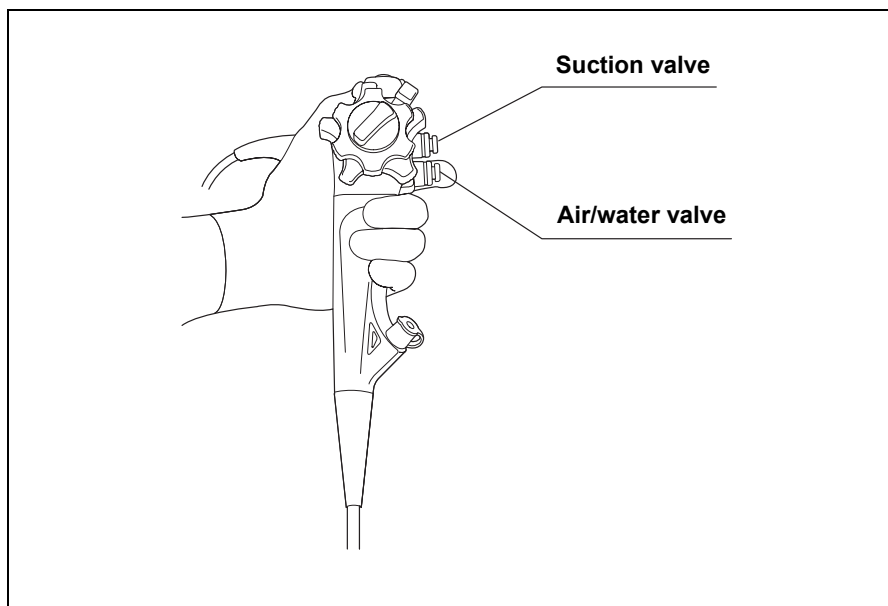

Figure 4.4
1. Cover the air/water valve's hole to feed air from the air/water nozzle at the distal end (see Figure 4.4).
2. Depress the air/water valve to feed water onto the objective lens (see Figure 4.4).
Depress the suction valve to aspirate excess fluid or other debris obscuring the endoscopic image (see Figure 4.4).